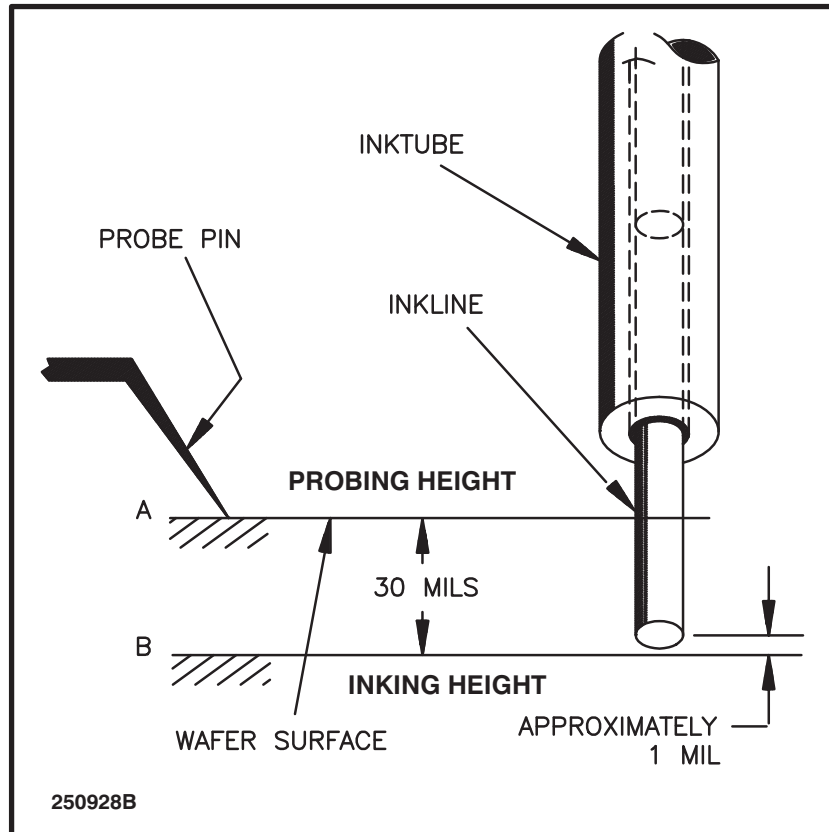

FIGURE 9-7: FRONT VIEW OF INK TUBE AND INKLINE
2. Using the Joystick, move the forcer until it is under the inker(s). The bottom of the ink tube(s) should be positioned over the center of the chucktop (the center of the smallest vacuum ring). See *Figure 9-7*.
9. Verify the Z heights of the ink tube, probe pins, and ink line extension, as shown in *Figure 9-7*. Fine tune the inker Z if needed.